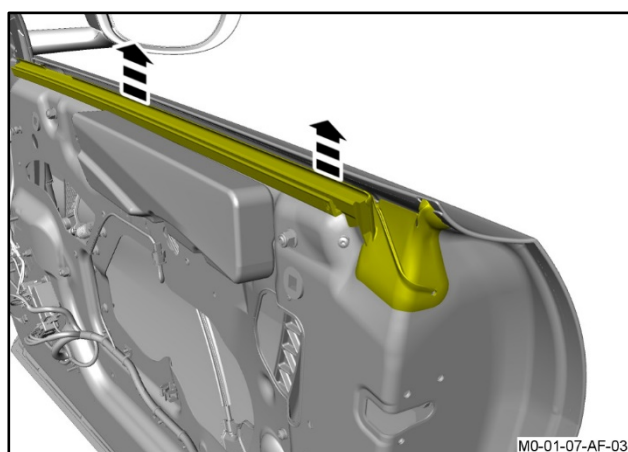

Figure 9
18. Release the inner waist seal from the door (refer to Figure 9).